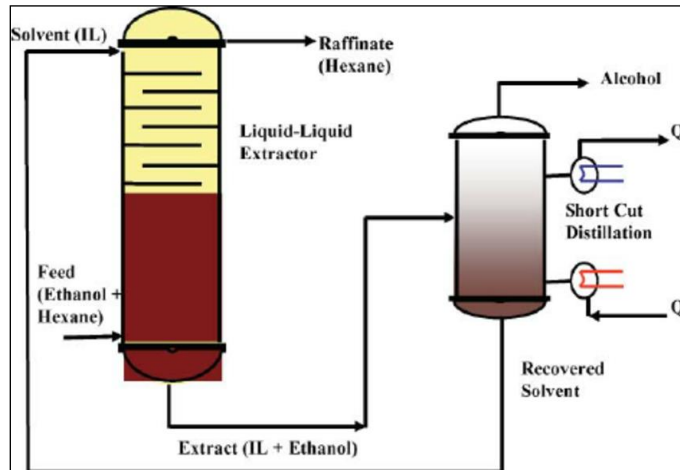

Figure 1: Liquid-liquid Extraction Process Flow
- (c) Figure 1 shows an example of liquid-liquid extraction process flow diagram.
- ii. Explain the liquid-liquid extraction process shown in Figure 1.